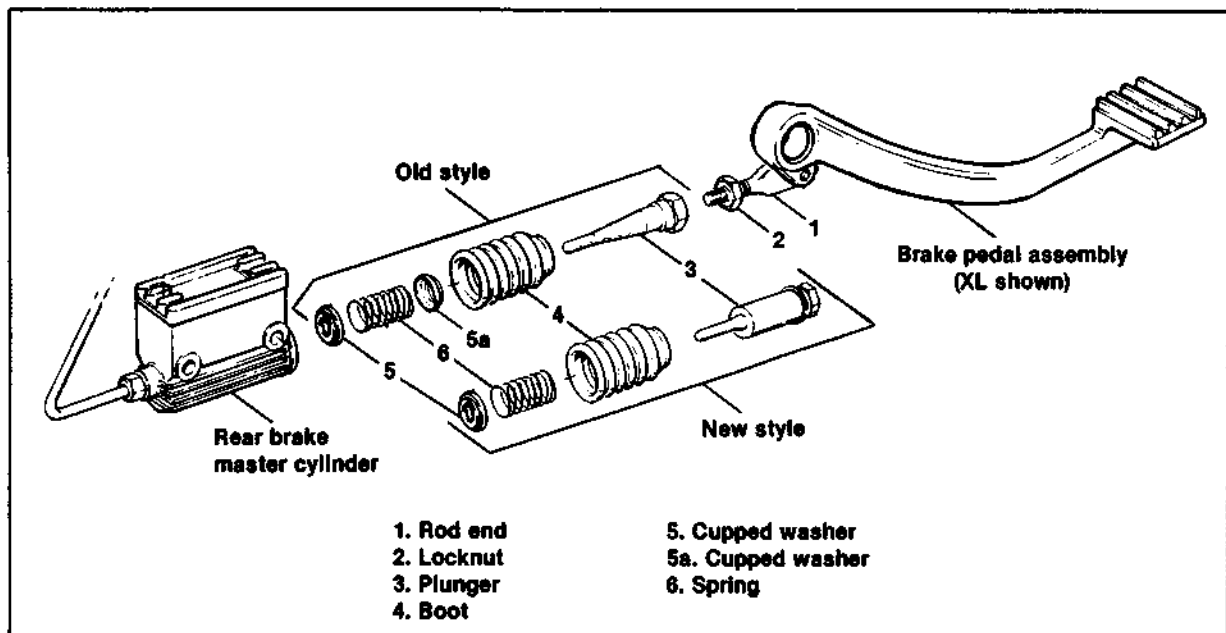

Figure 3. Rear Brake Control — Exploded View
2. See Figure 3. Remove the rear brake master cylinder mounting hardware. Remove the brake pedal/plunger assembly, boot (4), cupped washers (5, 5a) and spring (6). Discard cupped washer (5a).
3. Loosen locknut and unscrew the old style plunger from the rod end and replace it with the new style plunger from kit, Part No. 93420. Make sure lock ring from kit is installed on the plunger. Secure the locknut (2) against the plunger.
2. See Figure 3. Remove the boot (4), cupped washers (5, 5a) and spring (6). Discard washer (5a).
3. Loosen locknut and unscrew the old style plunger (3) from the rod end and replace it with new style plunger, Part No. 93420. Make sure lock ring from kit is installed on plunger. Secure the locknut against the plunger.
4. See Figure 3. Reinstall the boot(4), spring (6) and cupped washer (5) on the new plunger. Make sure drain hole in boot is positioned towards the bottom.